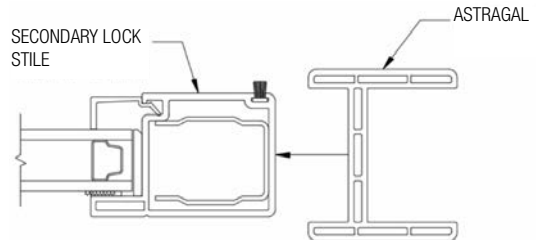
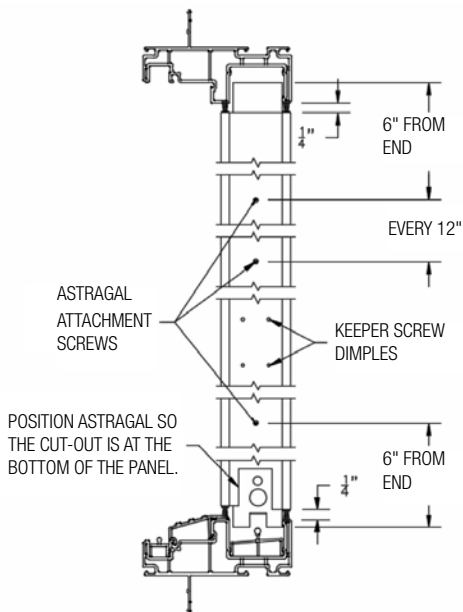

FIG. 20
FIG. 21
- E) Apply the astragal to the secondary stile. The secondary stile will fit into the shallow pocket on the astragal (FIG. 20). Center the astragal vertically in opening. There should be an approximate 1/4" gap between the astragal and the head & sill. The square cut-out on the astragal will go towards the bottom of the panel near the roller adjustment screw (FIG. 21).
- F) Attach the astragal to the secondary stile using screws from earlier. Apply the screws in the center of the profile 6" from each end and approximately 12" apart along the full length of the astragal (Fig 21).